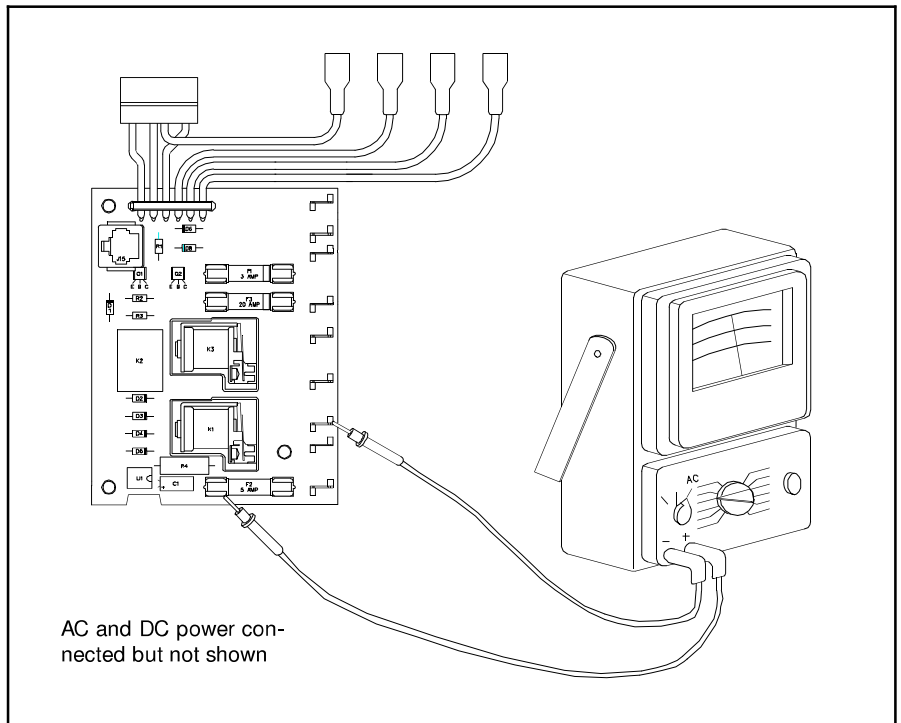

Figure 11.24 5 Amp Fuse Check
- With the volt-ohm-meter set to measure 120 volts AC, check for 120 volts through the 5 amp fuse as shown by Figure 11.24. If you do not have 120 volts as shown, replace the 5 amp fuse.